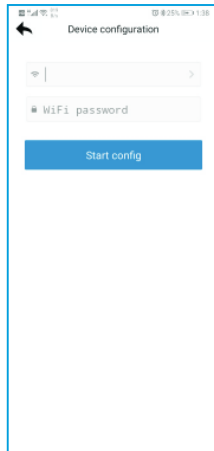
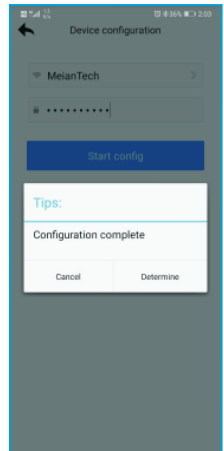

Fig. 5-7
Fig. 5-8
**Step 3:** Enter the name and password of the WiFi to be connected (Fig. 5-7), click “Start Config”, and click Host when the host screen displays  “Configuration complete” (Fig. 5-8).